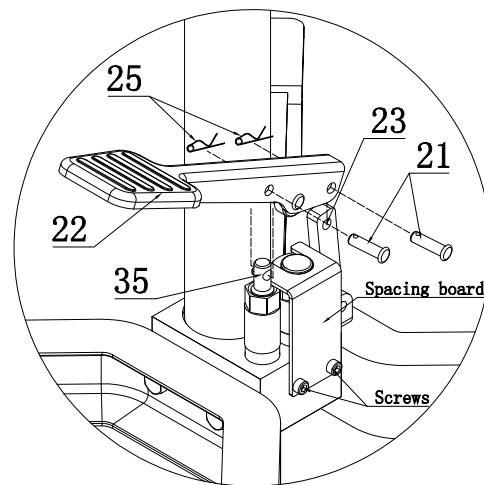

figure 1
1. Fit 2 Locking Casters (5) and 2 Casters (9) to the Legs (4) using Nuts (1), Lock Washers (2), and Flat Washers (3), then tighten.
2. Attach the 2 Legs (4) to the Transmission Jack Base (10) using Bolts (6), Lock Washers (7), and Flat Washers (8), then tighten.
3. Install the Saddle Assembly (60) onto the top of the Piston Rod (45), then tighten Lock Bolt.
4. Remove the R Clips (25) and Pedal Pins (21) from Foot Pedal (22). Attach the Foot Pedal to the Pump Core (35) and Connecting Bar (23) using the Pedal Pins and R Clips. Press the Foot Pedal and remove the 2 Screws holding the Spacer in place (figure 1), then release the Foot Pedal.